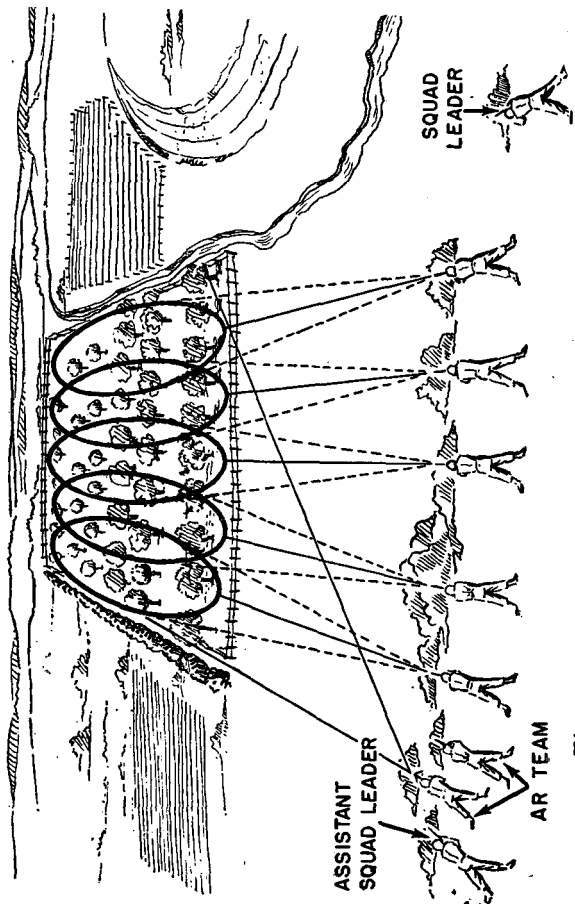

Figure 111. Squad fire distribution on an area target.
- (2) The automatic rifleman distributes his fire over the entire target area, or on any specific target where his fire will best support the advance of the squad.
- (3) Should other targets appear while the squad (or platoon) is employing this method of fire distribution, the squad (or platoon) leader announces necessary changes in the target assignment.
d. Area fire is fire that is distributed in depth as well as width. It is effective in smothering and neutralizing an area. In area fire, each rifleman distributes his fire laterally in the same manner as in distributed fire. In addition, he must distribute his fire in depth. The automatic rifleman distributes his fire at likely targets over the entire area (fig. 111).